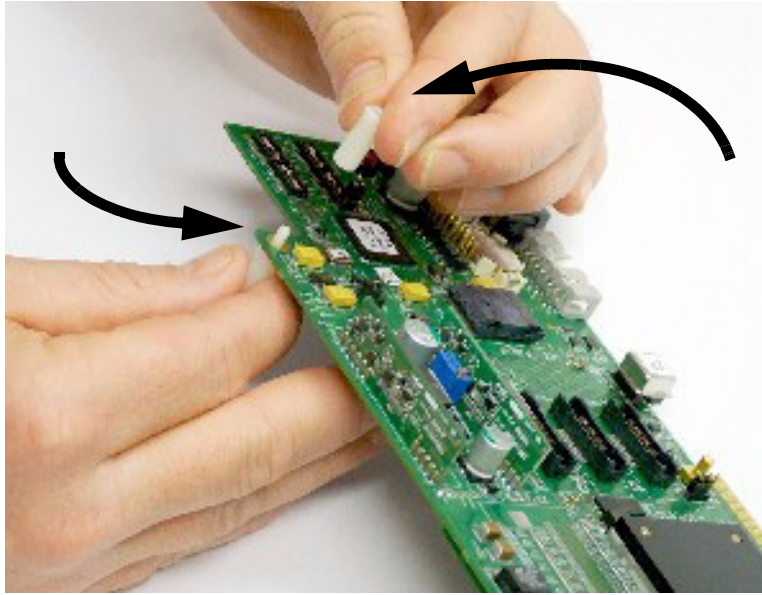
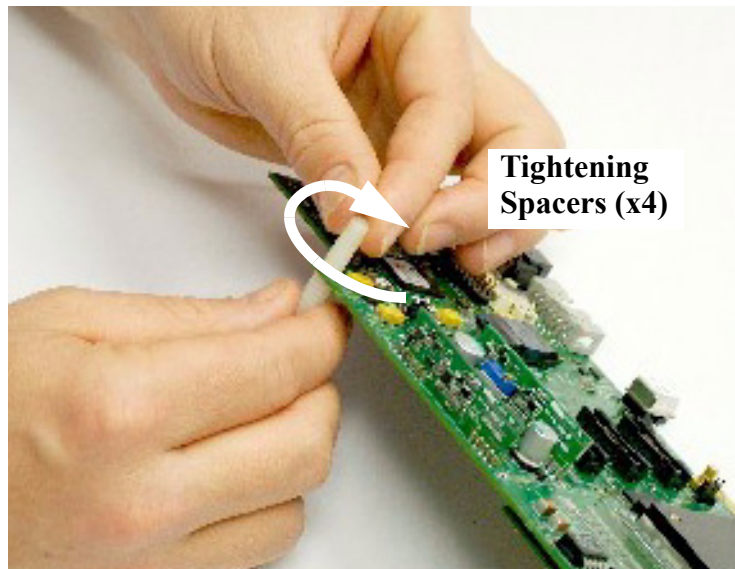

Figure 2-1. Connecting Plastic Spacers
Figure 2-2. Tightening Plastic Spacers
1. *For Stand-Alone Mode only:* Connect the four plastic spacers. See **Figure 2-1** and **Figure 2-2**.